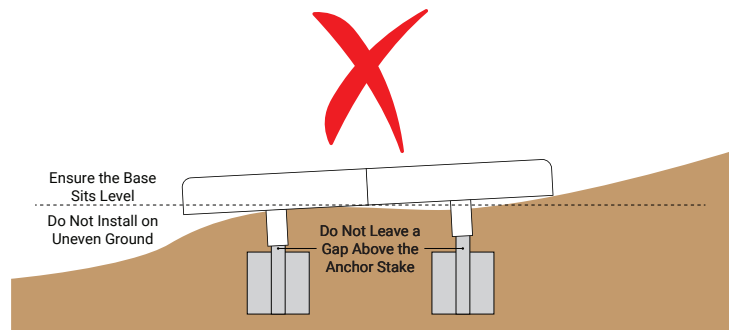

FIGURE 4
6. Make adjustments if the base is not level on flat ground, does not sit 1" below ground level or has a gap between the ground anchor. Figure 4.